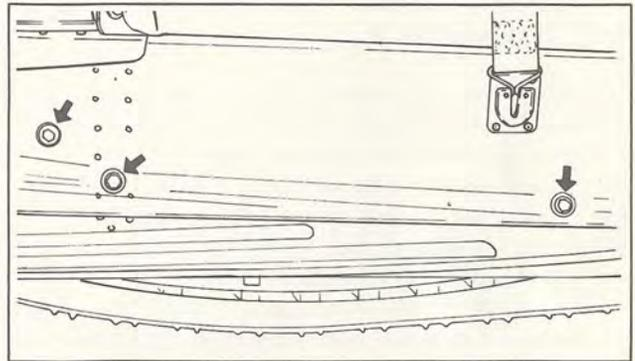

Fig. 4-7
- (7) Check the suspension bolts (six), and if loose, retighten. If bolts are loose, the frame may be cracked by road shocks. (Fig. 4-7)